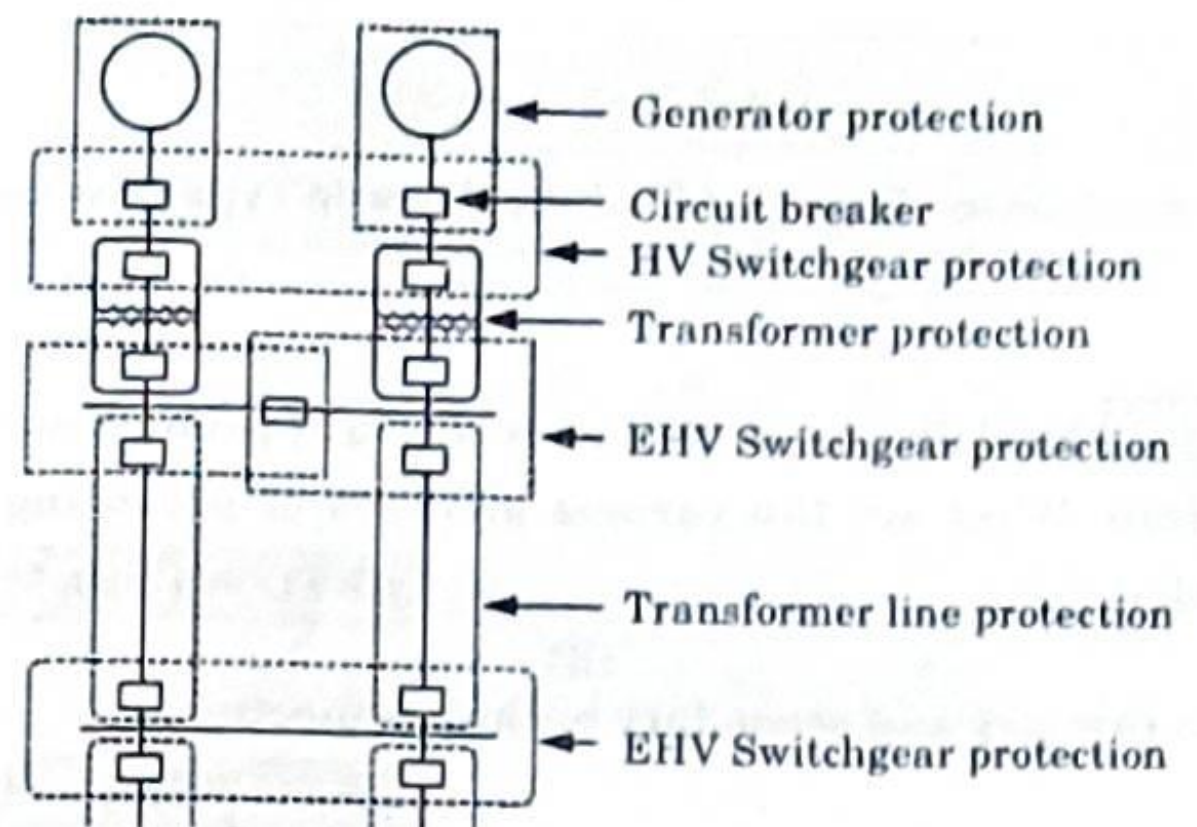

Fig. 1.5.1.
3. The protective zones are planned in such a way that the entire power system is collectively covered by them, and thus no part of the system is left unprotected. The various protective zones of a typical power system are shown in Fig. 1.5.1.